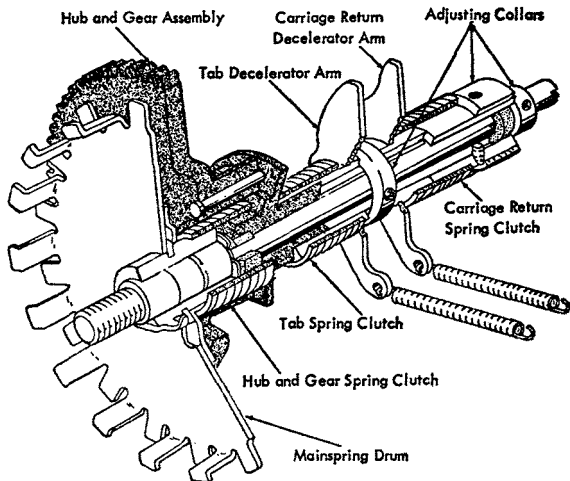

Figure 17. Decelerator
The decelerator is a control mechanism for the centrifugal-governor. It consists of a series of spring clutches and cam arms that control the action of the centrifugal-governor (Figure 17). The decelerator-governor action absorbs carriage shock and controls the speed of the moving carriage. It eliminates the tab rebound check-lever, the air cylinder and the horseshoe shaped tab-lever mounting-bracket.
1. SPRING-CLUTCH COLLARS. The tabulation and carriage-return spring-clutch collars should be positioned on the shaft so as to allow their decelerator arms to rotate freely without exceeding .003" end play of the arms on the shaft (Figure 17).